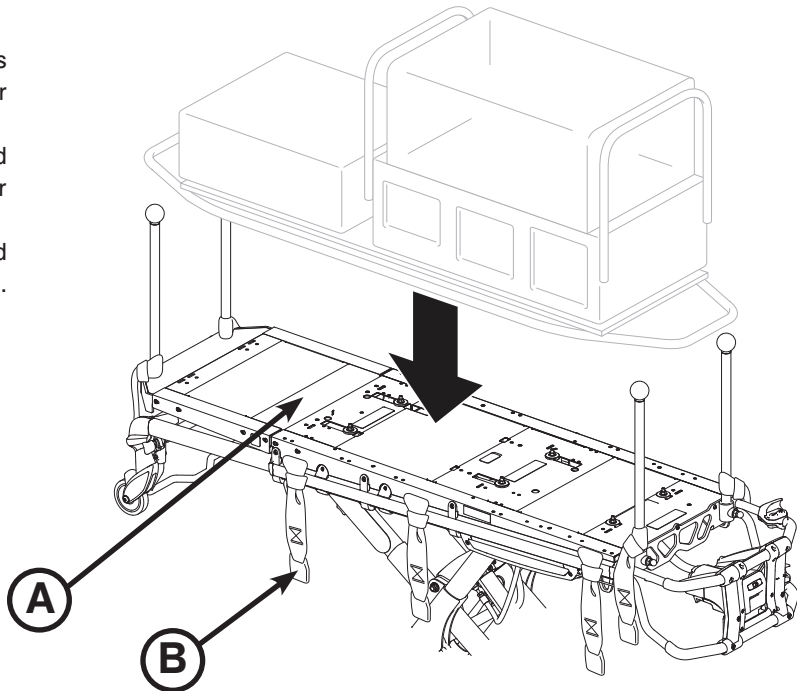

Figure 32
1. Attach the straps (not supplied), as shown in Figure 32, to secure the Air Sled to the litter surface (A).
2. Ensure that the straps (B) are secured from the head end push bars to the Air Sled (Figure 32).